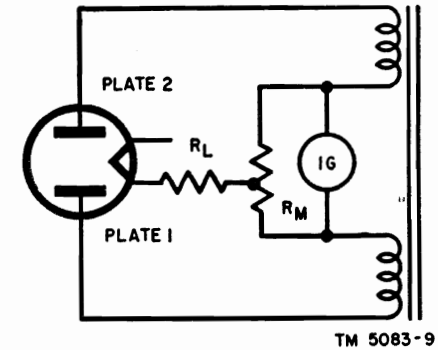

Figure 10. Rectifier diagram.
*a.* Examine first the simple full-wave rectifier circuit shown in figure 10. The two power transformer secondary windings have their inner ends connected to a d-c milliammeter. A center-tapped resistor  $R_M$  is shunted across the milliammeter. The load, resistance  $R_L$ , is connected between the center tap of the transformer and the rectifier filament as in any other full-wave rectifier circuit. When rectifier plate 2 is positive, electron flow is through the upper half of  $R_M$ , and the meter tends to deflect in one direction. When plate 1 is positive, electron flow is through the lower half of  $R_M$ , and the meter tends to